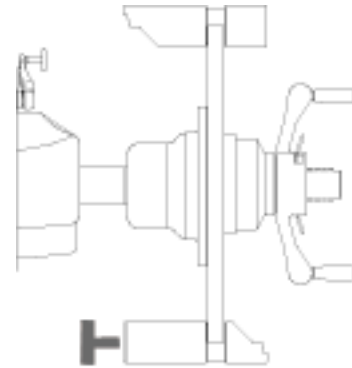

Figure 3-27
3. After the shaft comes to a complete stop rotate the shaft to locate the 100 gram weight at "**BOTTOM DEAD CENTER**" position. Press the <F> key to save the data. (Figure 3-27)